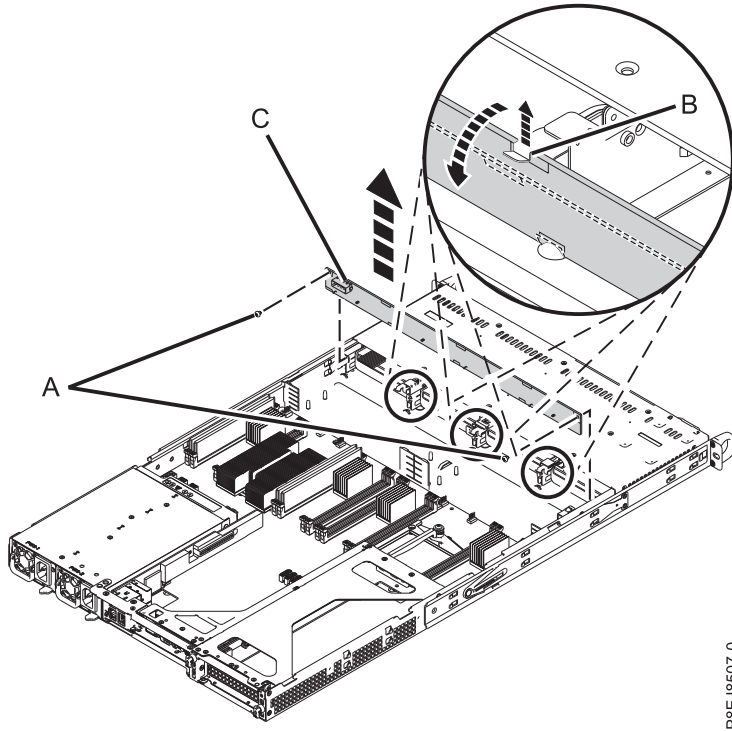

Figure 8. Removing the disk drive backplane and screws
6. Remove the disk drive backplane as shown in Figure 8 on page 11.